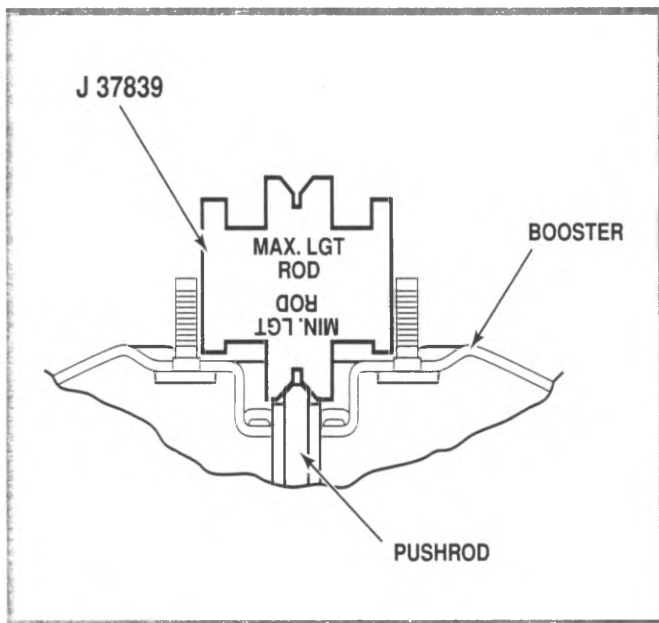

Figure 3-6, Minimum Pushrod Height
2. Check the maximum and minimum rod length using J 37839 (figures 3-6 and 3-7). The pushrod should contact the gauge with the "min" side of the tool and not contact on the "max" side of the tool.